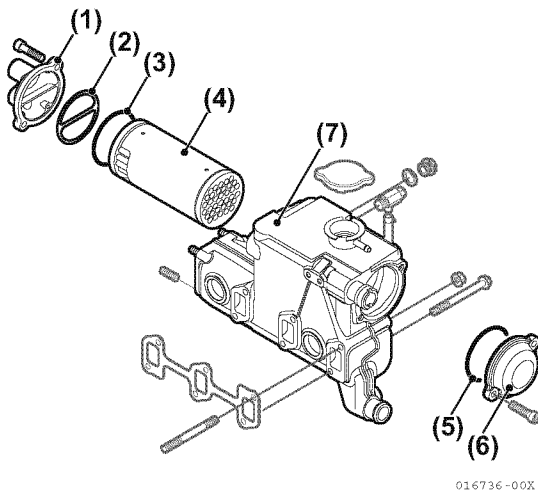
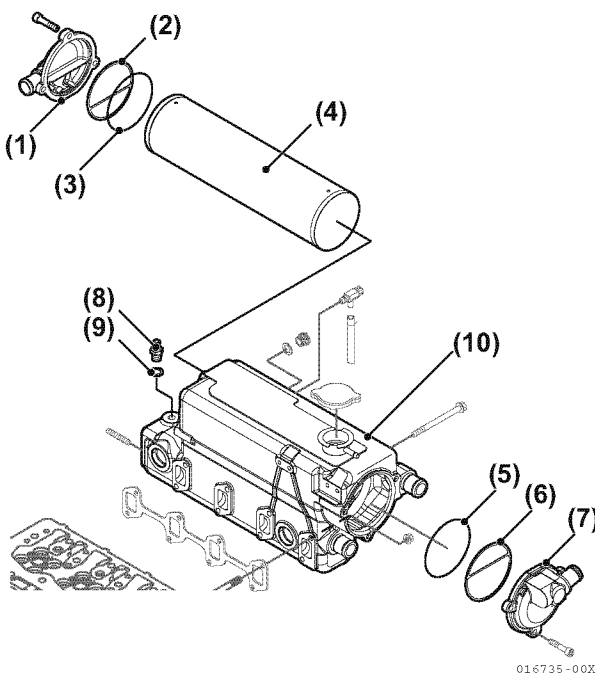

Figure 7-27
Figure 7-28
2. Remove outlet cover (**Figure 7-27, (1)**), (**Figure 7-28, (1)**) and gasket (**Figure 7-27, (2)**), (**Figure 7-28, (2)**).
3. Remove inlet cover (**Figure 7-27, (6)**) and (**Figure 7-28, (7)**) and gasket (**Figure 7-27, (5)**) and (**Figure 7-28, (6)**).
4. Pull core from housing (**Figure 7-27, (4)**) and (**Figure 7-28, (4)**).
5. Remove O-rings (**Figure 7-27, (3), (5)**), (**Figure 7-28, (3), (5)**).
6. Remove anode (**Figure 7-28, (8)**) and washer (**Figure 7-28, (9)**). *NOTICE: NEVER use caustic soda be used to clean the components. Use paraffin-based engine detergent to clean the cooler element. Thoroughly flush and rinse all components.*
8. *NOTICE: Always install new O-rings.* Install new O-ring (**Figure 7-27, (5)**), (**Figure 7-28, (5)**) on cooler core.
9. Install cooler core (**Figure 7-27, (4)**), (**Figure 7-28, (4)**), gasket and inlet cover (**Figure 7-27, (6)**), (**Figure 7-28, (6), (7)**).
10. Install O-ring (**Figure 7-27, (3)**), (**Figure 7-28, (3)**) on cooler core.
11. Install gasket and outlet cover (**Figure 7-27, (1), (2)**), (**Figure 7-28, (1), (2)**).
12. Install new anode (**Figure 7-28, (8)**) and washer (**Figure 7-28, (9)**). See *Draining and Filling Closed Cooling System on page 7-10.*